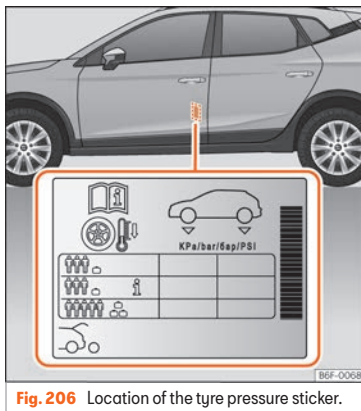

Fig. 206 Location of the tyre pressure sticker.
- Adjust tyre pressure to the load being carried by the vehicle »» **Fig. 206**.
The tyre inflation pressures are listed on a sticker on the rear of the front left door frame »» **Fig. 206**.
Depending on the vehicle, tyre pressure can be adjusted to medium load to improve driving comfort (tyre pressure **i**) »» **Fig. 206**. When driving with comfort tyre pressure fuel consumption may increase slightly.
The tyre pressure must be adjusted according to the load the vehicle is carrying. If the vehicle is going to carry the maximum load, the tyre pressure should be increased to the maximum value indicated on the sticker »» **Fig. 206**.
pressure of 4.2 bar as indicated on the tyre pressure label » **Fig. 206**.
- The driver is responsible for ensuring that all of the vehicle tyres are correctly inflated to the right pressure. The recommended tyre pressure is indicated on the label » **Fig. 206**.
- When the tyres are cold, tyre pressure should be that indicated on the label » **Fig. 206**.